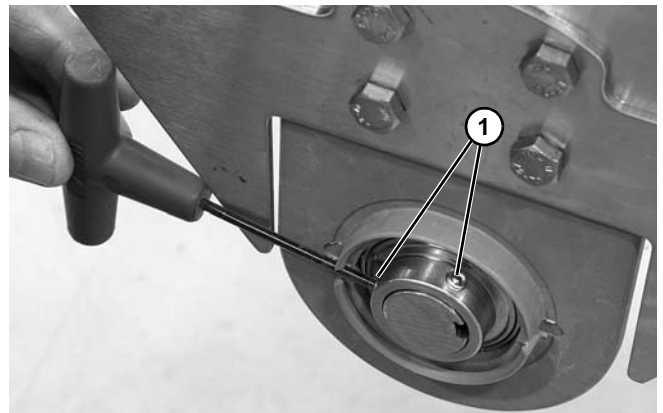

Figure 57
5. Loosen set screws (Figure 57, item 1).